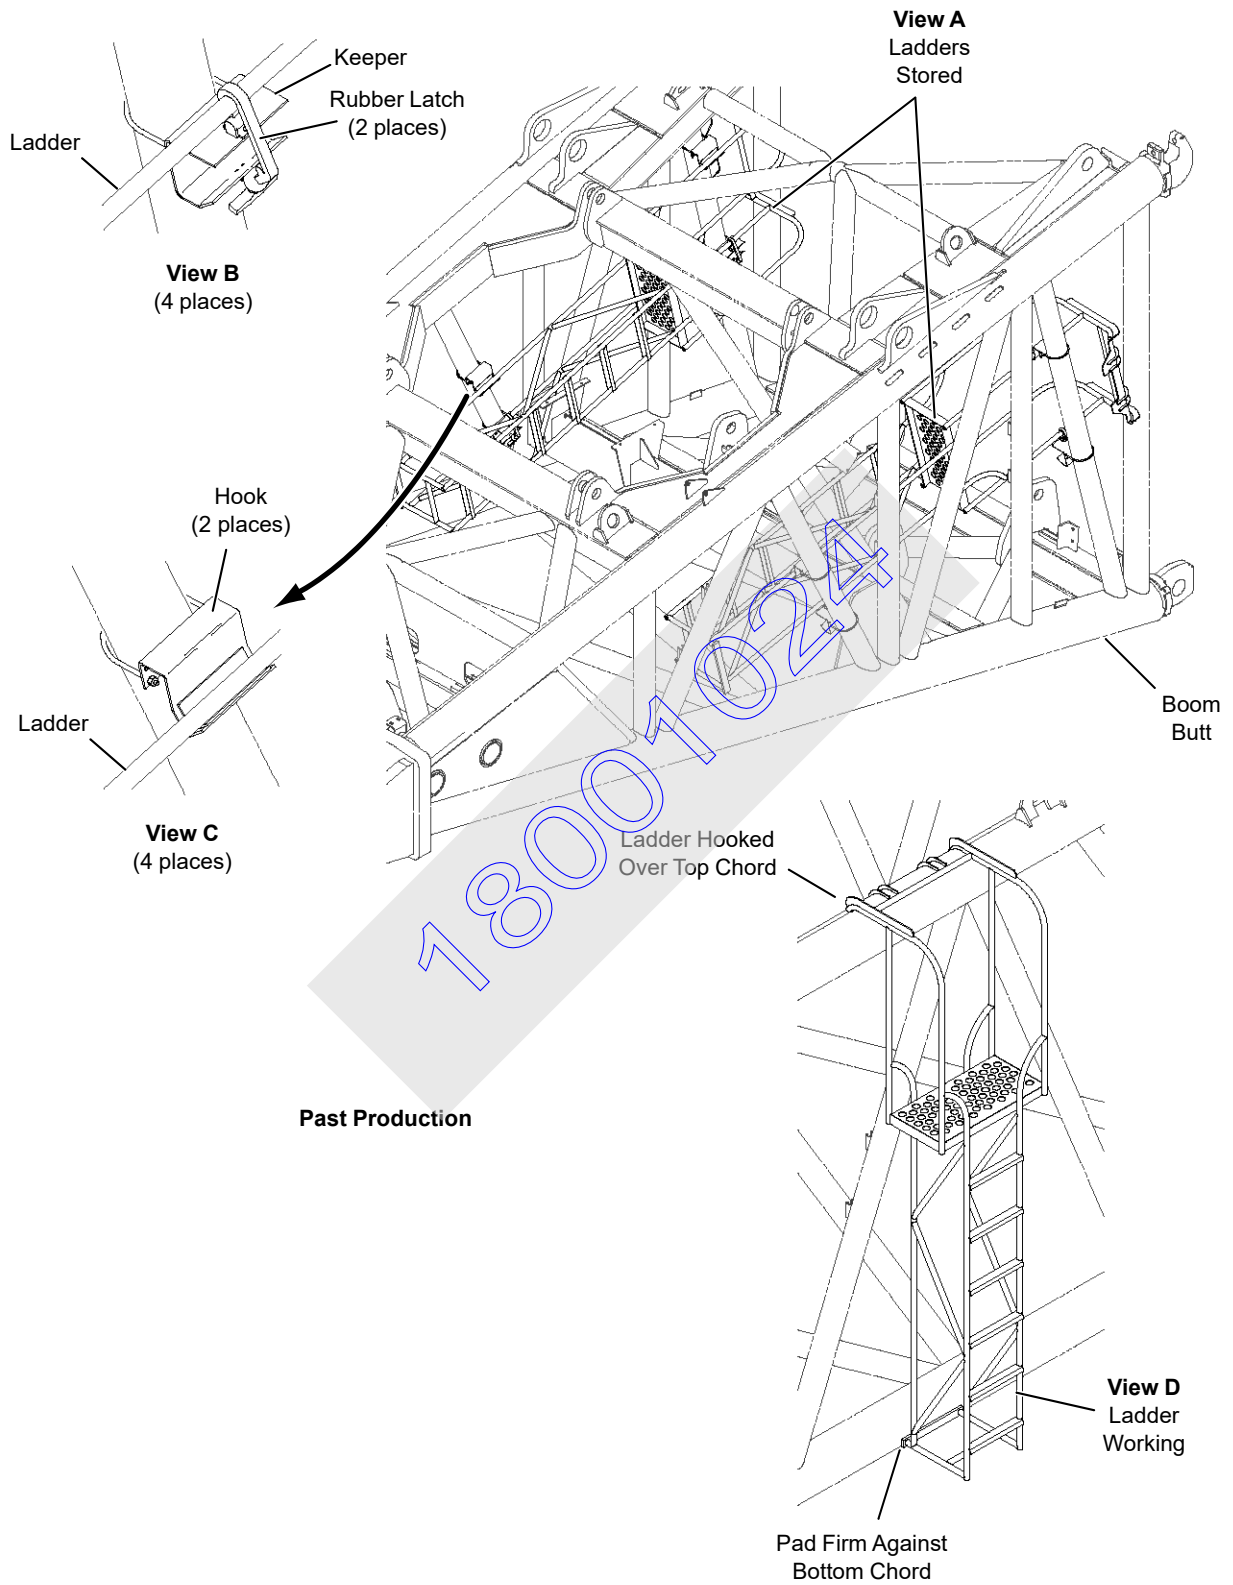

FIGURE 4-38
- Current Production: inside the 40 foot (12,2 m) insert that is installed next to the boom butt as shown in (see Figure 4-38, View A)